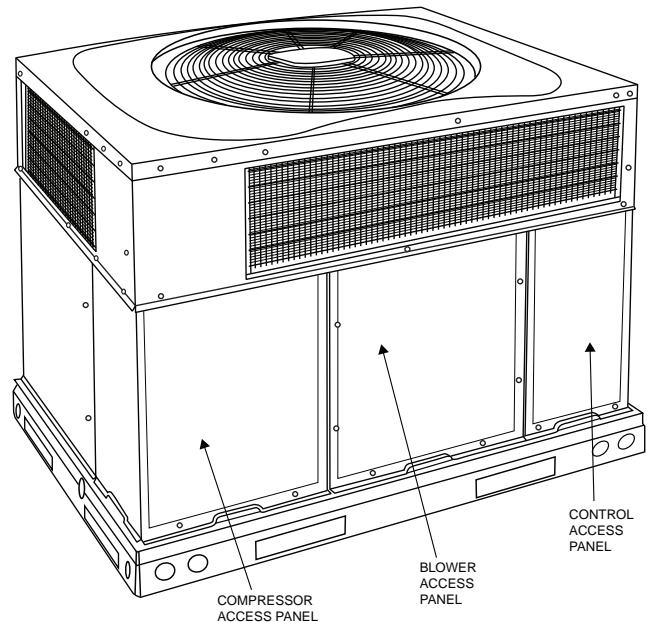
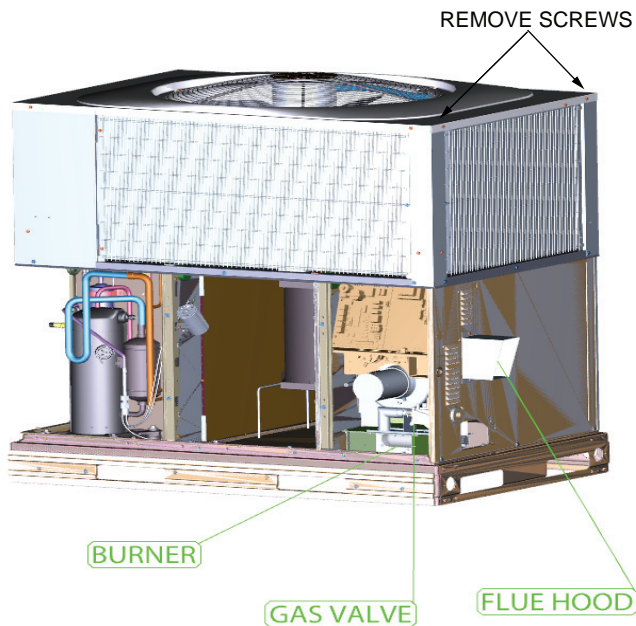

Fig. 2 – Unit Access Panel
Fig. 3 – Gas Heating/Electric Cooling Unit with Access Panel Removed A200279
Refer to Fig. 2 for location of unit front access panel. Refer to Fig. 3 for location of gas valve. Refer to Fig. 4 while proceeding with the following steps.
4. Remove the control access panel with a 5/16-in. nut driver. (See Fig. 2.)
4. Remove the control access panel. (See Fig. 2.)
To replace or inspect filters in accessory filter rack (See Fig. 2):